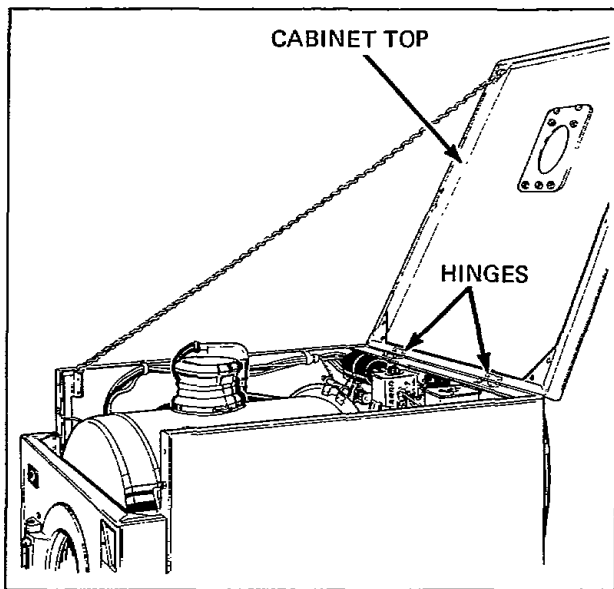

Figure 11
- e. Tilt cabinet top backward and hold in raised position with a small chain, *Figure 11*.
- f. Remove four screws and nuts holding cabinet top to hinges, *Figure 11*.